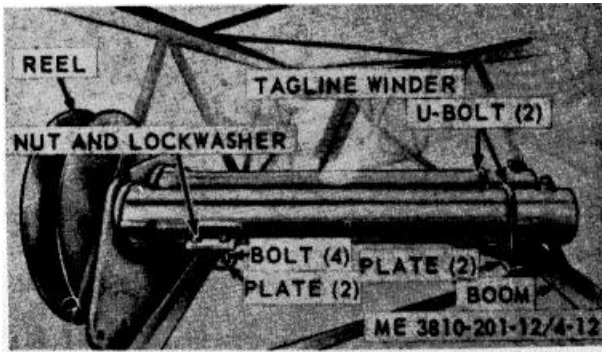

Figure 4-12. Tagline winder, removal and installation.
(1) Disconnect tagline from clamshell bucket and remove line from reel (fig. 4-12), or wind on reel and secure loose end.
(2) Remove four nuts, lockwashers, bolts, and two plates securing left end of tagline winder to boom.
(3) Remove four nuts, lockwashers, two U bolts, and two plates securing right end of winder to boom, then lift tagline winder from boom.